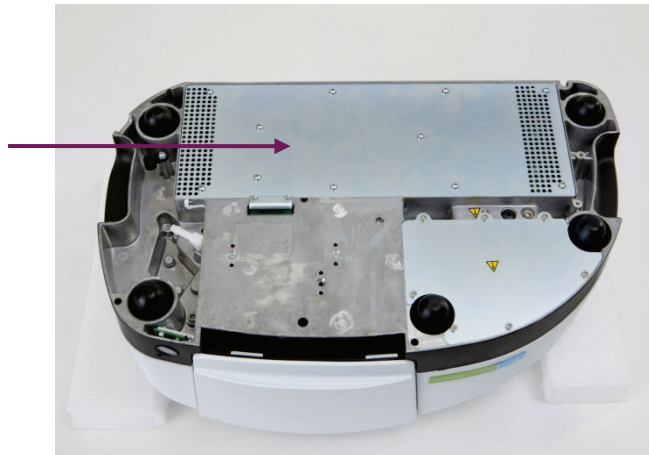

Figure 92 Location of the main board compartment
6. Locate the used filter (Figure 92).